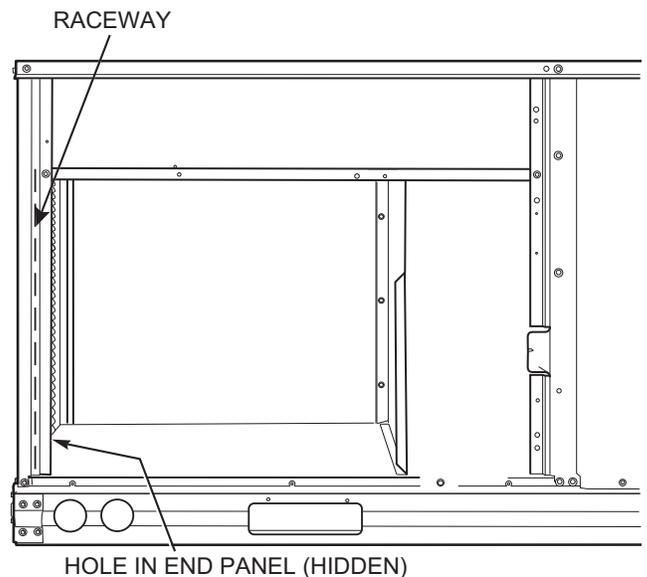

Fig. 28 — Field Control Wiring Raceway
Pass the thermostat control wires through the hole provided in the corner post; then feed the wires through the raceway built into the corner post to the control box. Pull the wires over to the terminal strip on the upper-left corner of the Unit Control Board. See Fig. 28.
2. Feed wires through the raceway built into the corner post (see Fig. 28) to the 24-v barrier located on the left side of the control box. The raceway provides the UL-required clearance between high-voltage and low-voltage wiring.
2. Feed wires through the raceway built into the corner post (see Fig. 28 on page 17) to the 24-v barrier located on the left side of the control box. The raceway provides the UL-required clearance between high-voltage and low-voltage wiring.